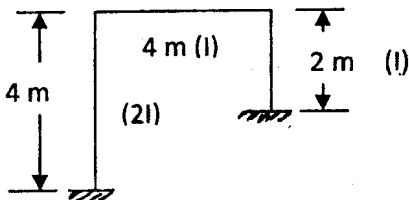

Fig. 2.
4. For the portal frame shown fig. 2, find the ratio of sway moments. 3
6. For the frame shown in fig. 2, calculate the displacement factors. 3